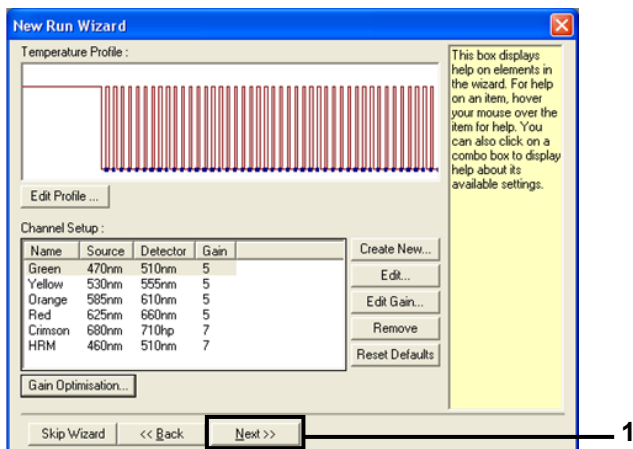

Figure 13. Saving the EGFR RGQ PCR Kit template. (1 = "Next")
15. Click **Next** (Figure 13) to save the EGFR RGQ PCR Kit template (*.ret file) in an appropriate location by selecting **Save Template**.